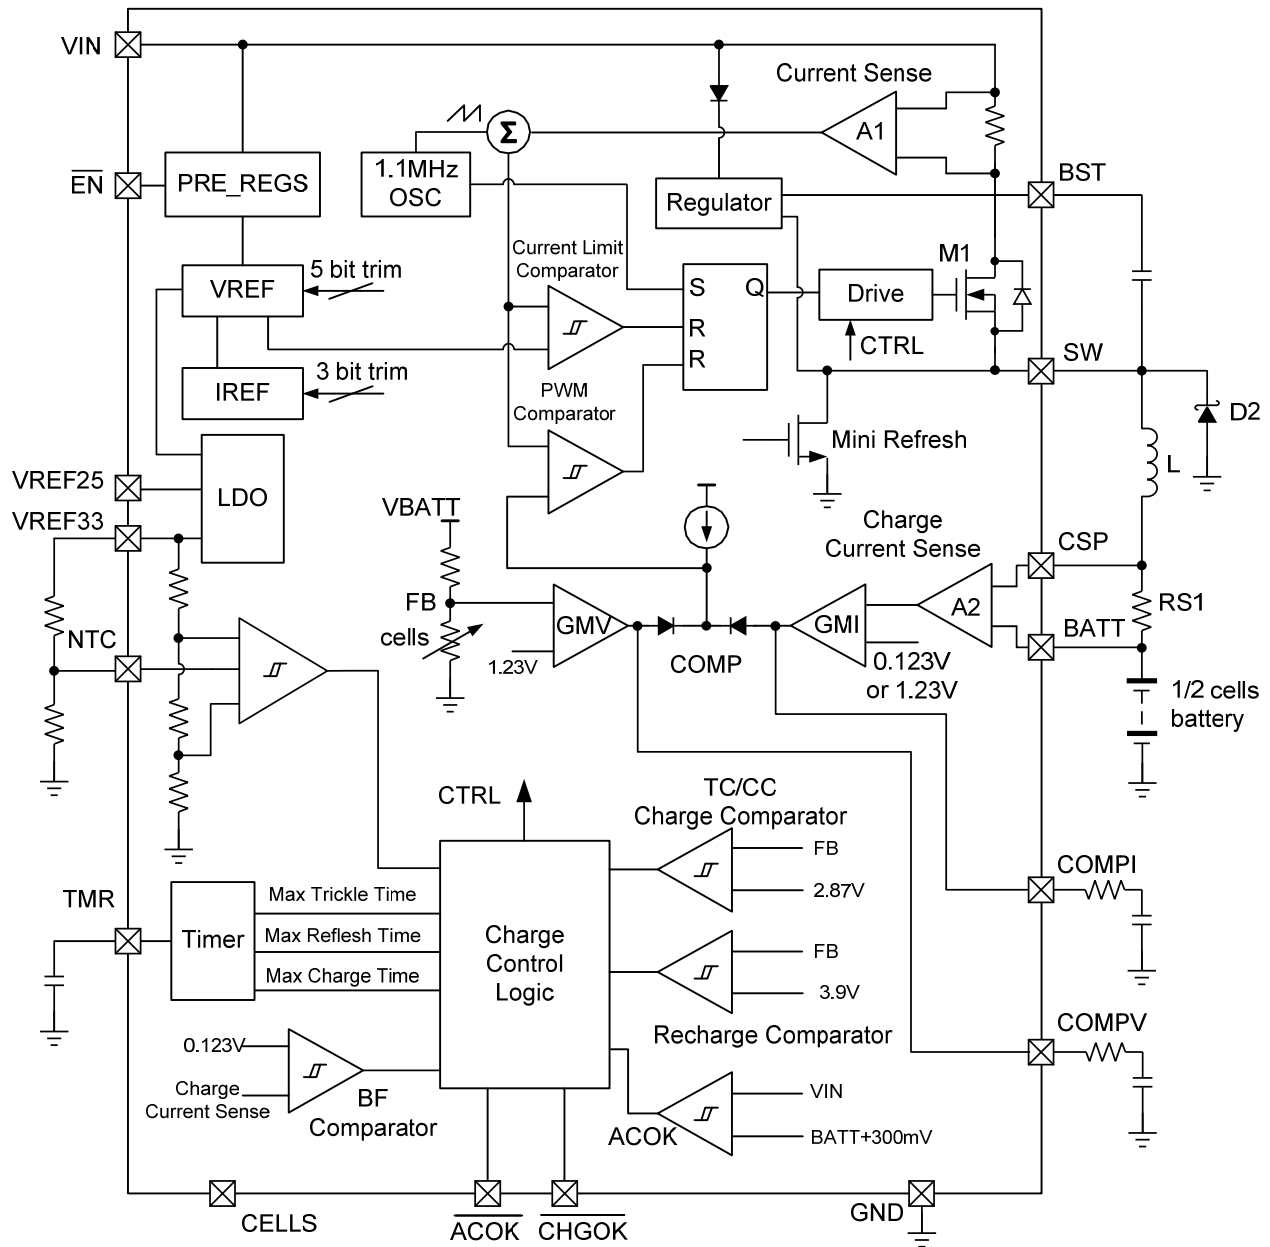

Figure 1—Functional Block Diagram
Figure 1 shows the block diagram. At the beginning of a cycle, M1 is off. The COMP voltage is higher than the output of the current sense amplifier (A1) and the PWM comparator's output is low. The rising edge of the 1.1MHz CLK signal sets the RS flip-flop. Its output turns on M1 to connect the SW pin and inductor to the input supply.
The MP26101 senses battery current through the amplified voltage drop across RS1 (Figure 1). The charging starts in trickle-charge mode (10% of the RS1-programmed current I_{CC}) until the battery voltage reaches 2.87V/cell. If the charge stays in trickle-charging mode until the trickle-charge time limit, the device shuts down. Otherwise, the MP26101 operates in constant-current (CC) mode and regulates the output current to a level set by RS1. The COMP1 voltage (regulated by the